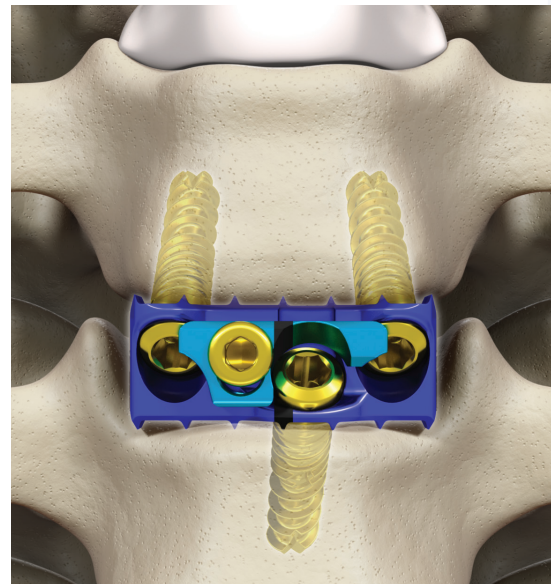

Figure 77
- Turn the driver clockwise. As the screw tightens, the teal locking cap will slide over the screw heads. Turn the torque limiting handle until an audible click is heard when the locking mechanism is tightened to 4in-lb. The locking mechanism and torque limiting handle will provide visual, audible and tactile confirmation that the locking mechanism is fully secured and the screw heads are partially covered (Figure 77).